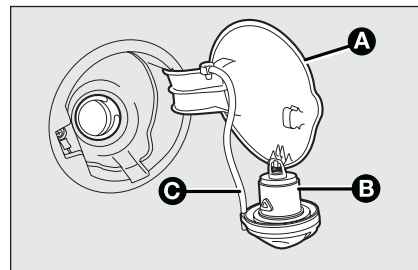

fig. 106
FUEL TANK PLUG fig. 106
- 1) Open the flap **A-fig. 106** pulling it outwards, keep the cap **B** still, insert the ignition key in the lock and turn it anti-clockwise.